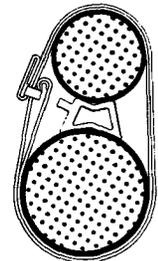

Fig. 8—Complete Installation—Lashed Cable Support and D Cable Spacer
2.10 Force the bent portion flat against the strap to complete the installation as shown in Fig. 8.